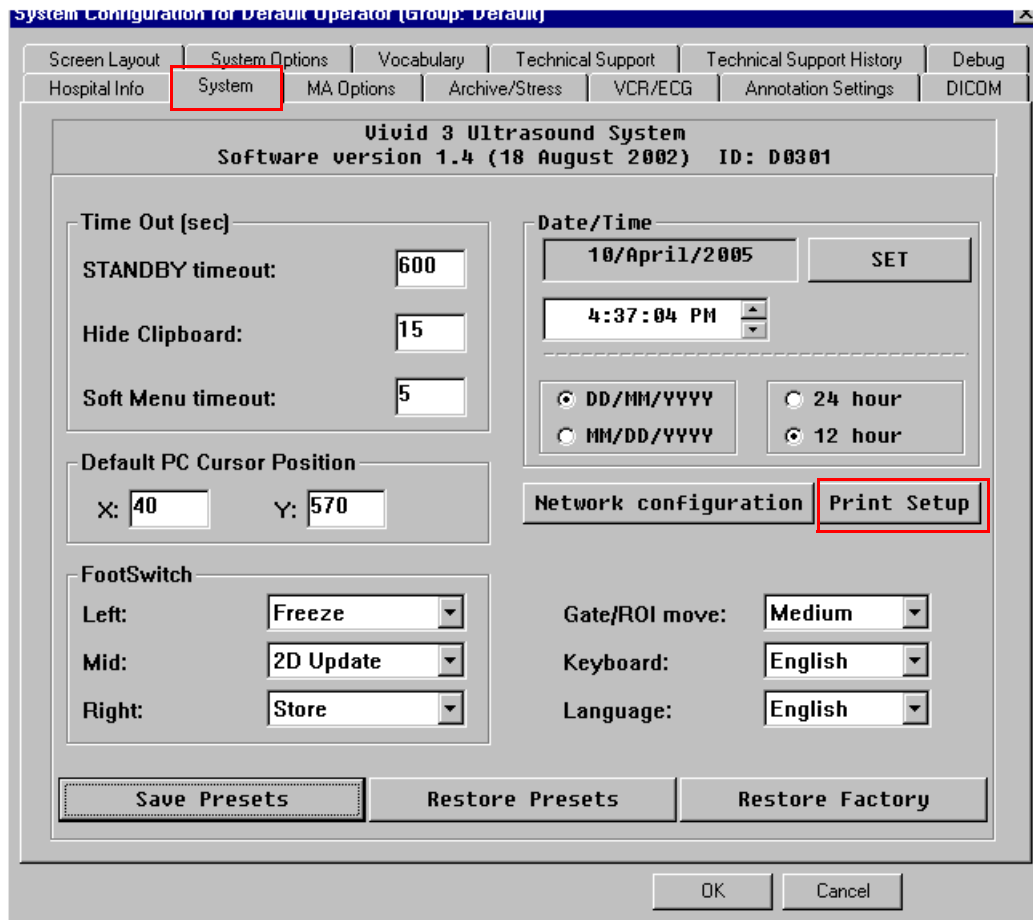

Figure 8-198 System Configuration Window - System Tab
- 4.) Press the **Config** button on the control console, then from the System Configuration window, activate the **System** tab (Figure 8-198).
The System Configuration window is re-displayed (refer to Figure 8-198 on page 8-188).